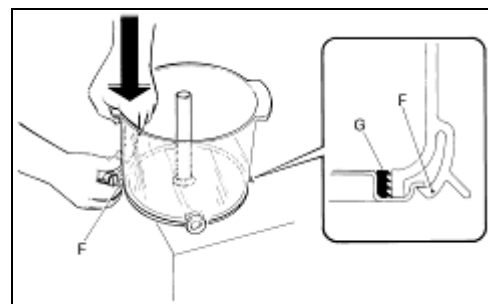

Fig. 5
- **W**hen fitting, position the seal (G) as shown in fig 5.
- **I**n order to facilitate fitting operations, spread Vaseline or another suitable lubricant over the seat of the container (A) where it comes into contact with the seal (G) (fig. 5).
- **P**ull the lever (F) outwards, pushing the tank downwards so that it fits into its seat (fig 5).